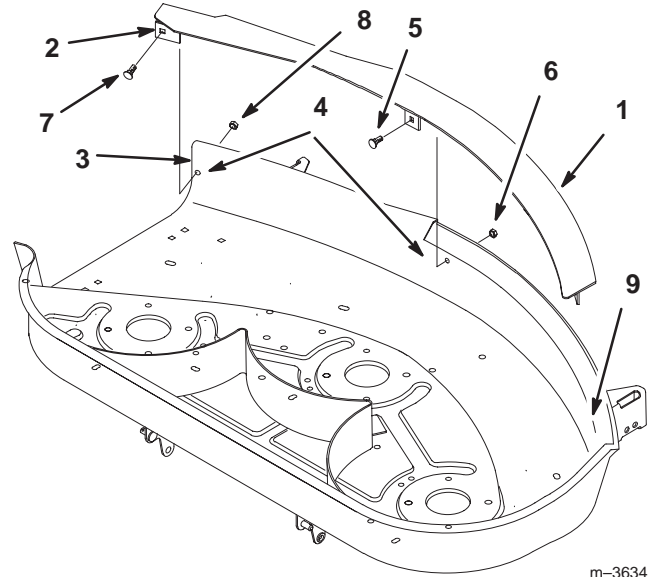

Figure 1
2. Remove the carriage bolt plugging the hole in the left front edge of the mower housing (Fig. 1).
3. Place the grass baffle inside the front edge of the mower. The baffle plate should rest on the front edge of the mower. The right tab on the baffle should extend 1/8 in. (3 mm) outside of the right edge of the mower (Fig. 1). Use a clamp to hold the baffle in place.
5. Install the grass baffle inside the front edge of the mower using 3 long carriage bolts (5/16 x 7/8 in.) and 3 thick locknuts (5/16 in.) along the front. At the right side use the short carriage bolt (5/16 x 1/2 in.) and thin locknut (5/16 in.) (Fig. 1).